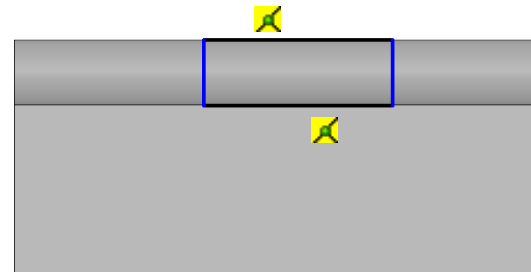

Fig. 11
Step 5. Sketch a **rectangle coincident**  with **top and bottom silhouette edge of rolled hem**, **Fig. 11**.